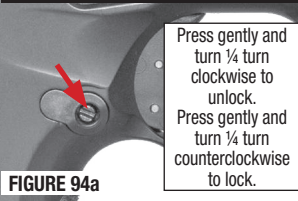

**FIGURE 92**
- FIGURES 92 and 93 on the next page show the magazine release removed from the pistol for clarity. The catches are contoured to match the shape of the frame when installed.